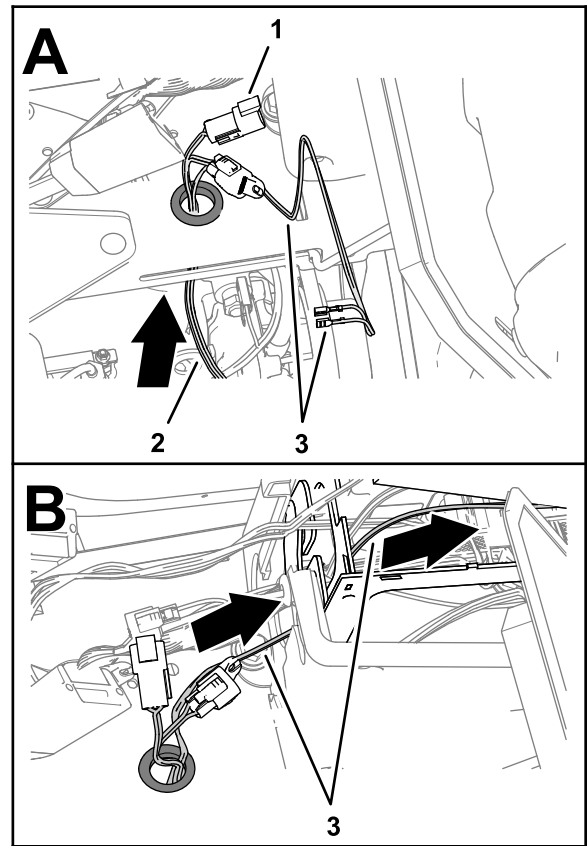

Figure 60
1. Route the wire harness branch labeled REMOTE ENGAGE SWITCH through the grommet (Figure 60) that you installed in 10 Drilling the Console Base (page 16).
2. Route the wire harness branch labeled REMOTE ENGAGE SWITCH) into the center console (Figure 60).